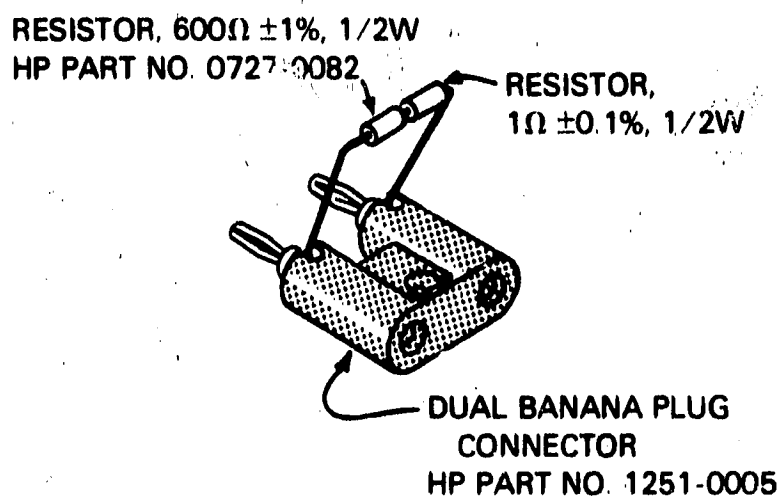

Figure 3. 600 Ohm Load
d. Connect the AC Voltmeter leads across the 1 ohm resistor on the 600 Ohm Load (ref. Figure 3).